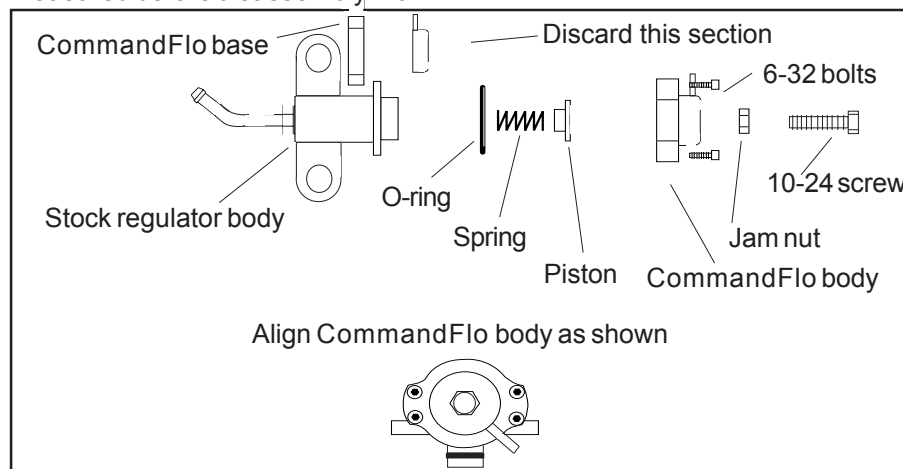

Figure 1
STEP 6. Carefully mount the regulator body in a vise. Using a hacksaw, cut off the top of the regulator "hat" and vacuum pipe just below where the vacuum pipe attaches to the "hat." **Be careful:** the top is under pressure from the spring inside! Remove and discard the top and spring (see fig. 1).
STEP 10. Position the supplied piston and spring into the **CommandFlo** body, making sure to seat it on the brass piston. Without dropping the spring, install the **CommandFlo** body onto the stock pressure regulator. Place a drop of Loctite® on each of the four supplied 6-32 bolts and carefully attached the **CommandFlo** base (use caution when installing the screws to avoid stripping out the base). Once the base is attached, align the **CommandFlo** assembly as shown (see fig. 1).